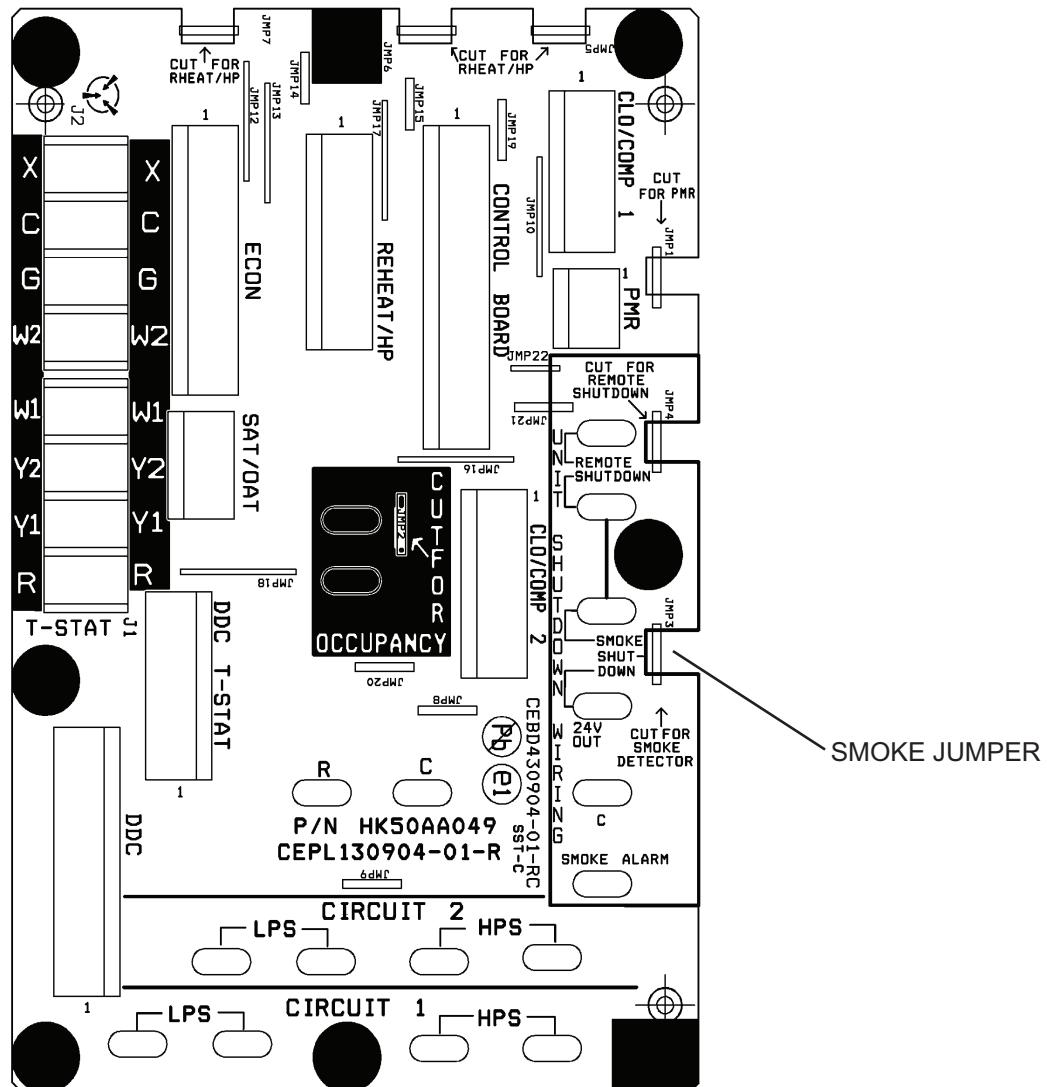

Fig. 6 — Central Terminal Board (Not Used for 48/50LC Models)
6. Using two #8 screws, mount assembly into predrilled holes located next to central terminal board oriented as shown in diagram (see Fig. 6).
8. Cut smoke detector jumper on control terminal board as shown in Fig. 6 and 7.